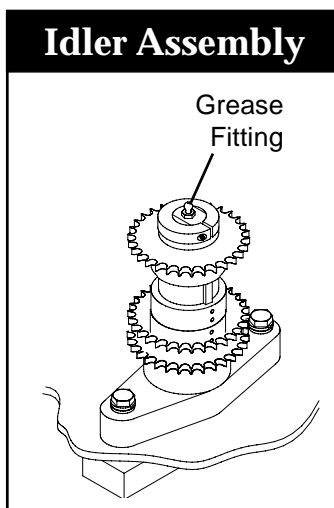
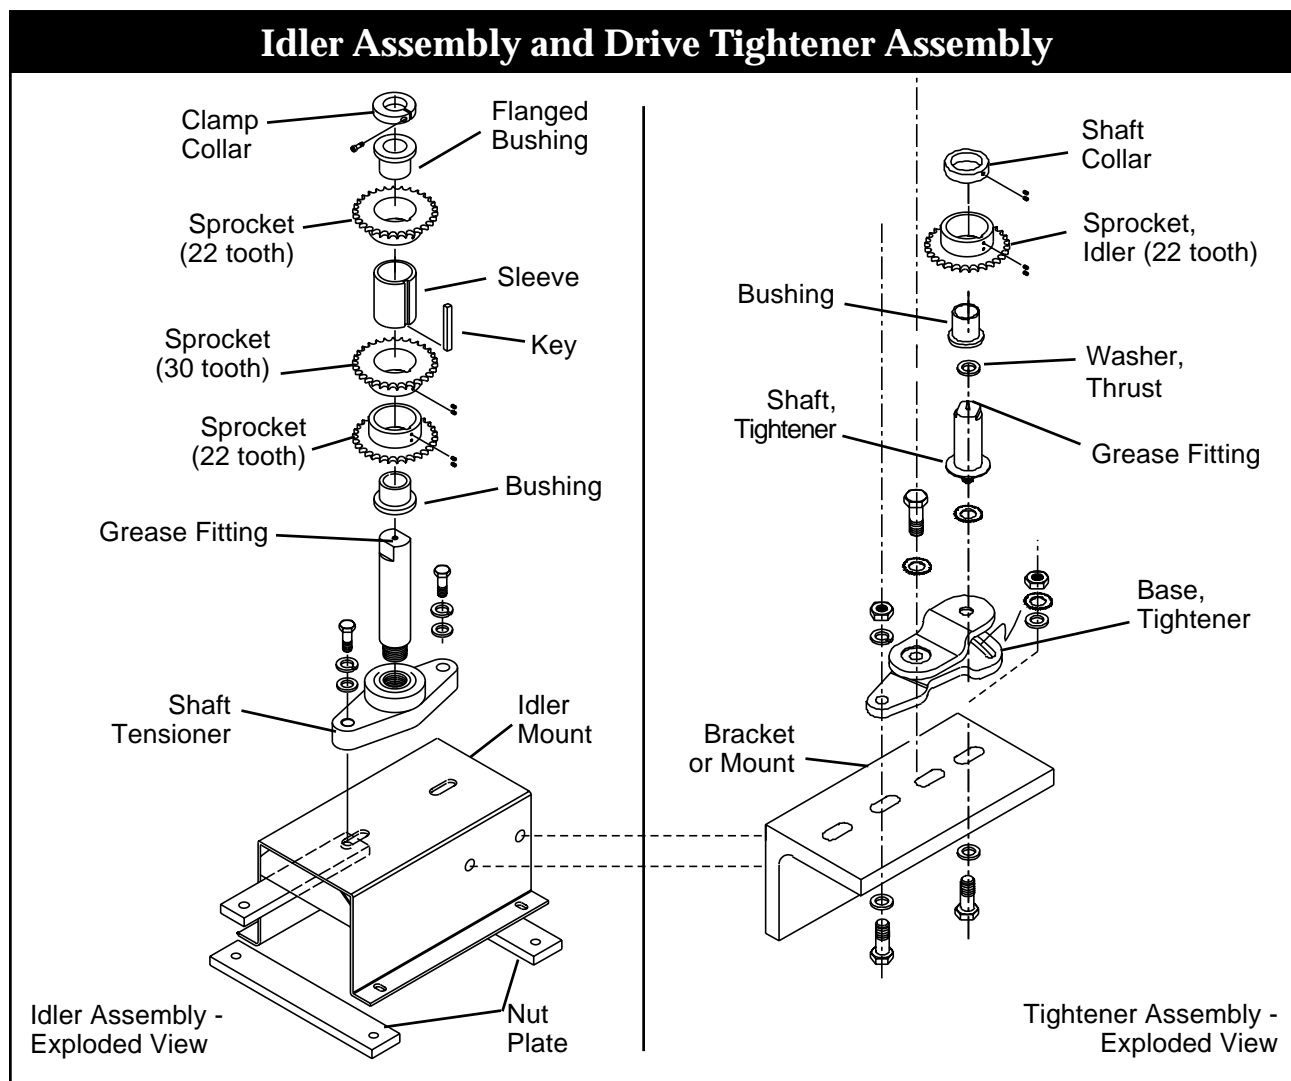

Figure 4-1. Assembled View
Figure 5-3. Idler Assembly left, Drive Tightener Assembly right
It's recommended that you grease the idler assembly (refer to Figure 4-1), for both metric and ANSI models, every six (6) months after installation. Note the order of assembly (see Figure 5-3).
The idler assembly installed in the FS-40-RD and the FS-50-RD feeders are designed for maximum reliability. In the event that you experience problems related to the idler assembly, contact your direct supplier. If component replacement is necessary note the order of assembly in (Figure 5-3).